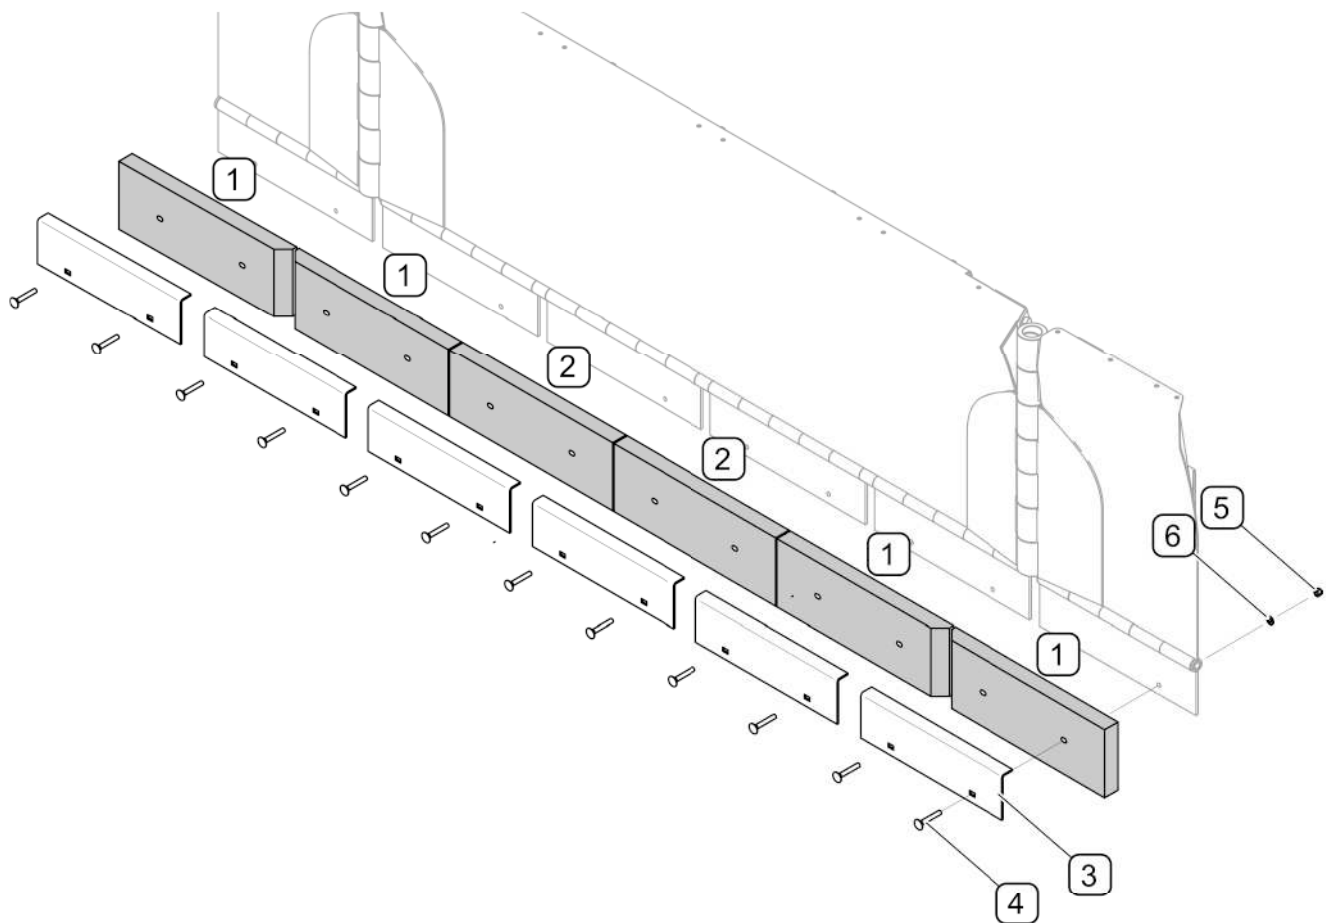

FIG. 5.1 Replacement of rubber blades
Rubber blades of the scraper – blade's mouldboards (FIG. 5.1) consist of external segments (1) and internal segments (2). To remove a blade, unscrew proper nuts (5), remove bolts (4) and remove clamping strip (3). Install a new blade and assemble it performing the above activities in reverse sequence. The blades that are worn on one side can be turned on the other side. To do this, turn internal blades (2) and turn and swap external blades (1). List of blades is shown in (TAB. 5.1)